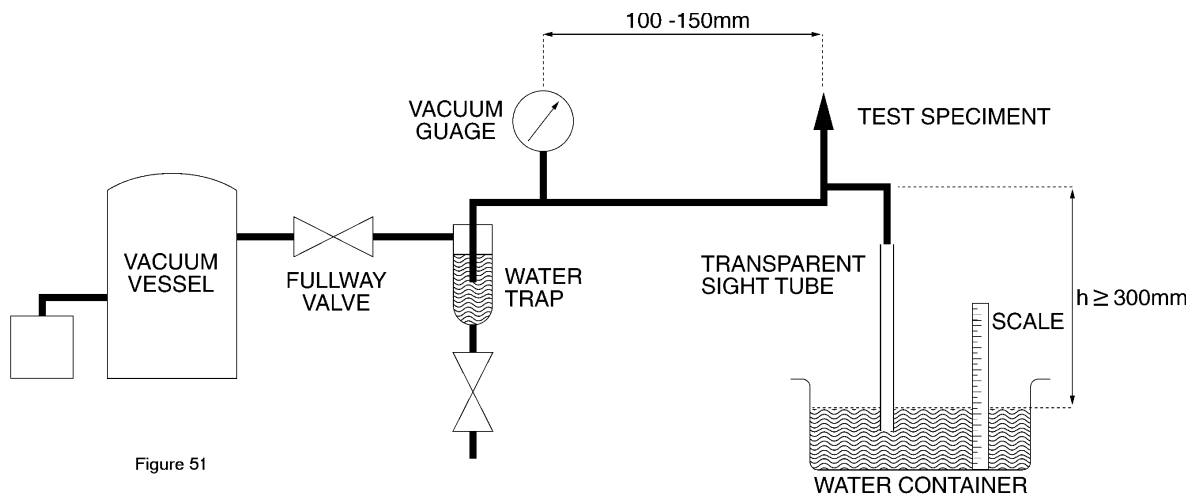

Figure 51
- (1) Mount the device in the test system in its normal working position. (Reference Figure 51).
- (2) Open the full-way valve within 1 second so that an absolute pressure of below 0.5 bar is applied to the pipe interrupter with elastic membrane, for a time of at least 5 seconds.